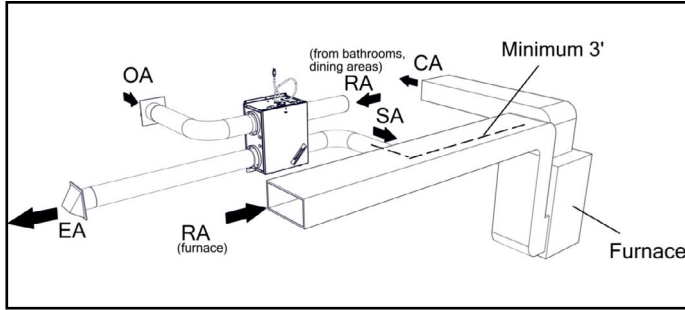

FIGURE 2.4.0 SEPARATE ROOM AIR PICK-UP—SUPPLY AIR TO FURNACE RETURN AIR TRUNKLINE
- For houses with ducted heating or cooling systems—See Figures 2.4.0, 2.4.2, and 2.4.3.
- For installations that collect stale air from specific rooms in the home—See Figures 2.4.0 and 2.4.1.
A RenewAire ERV can be used as a central exhaust system in place of bathroom exhaust fans. Tie a grille in each bathroom directly back to the ERV—see Figure 2.4.0. A successful installation should provide at least 50 CFM of exhaust per moisture producing bathroom. When used for bathroom exhaust, the EV90 should be used for only one bathroom. Install a control in the bathroom ventilated by the ERV.
See Figures 2.4.0 through 2.4.3 for examples of some common installation approaches.